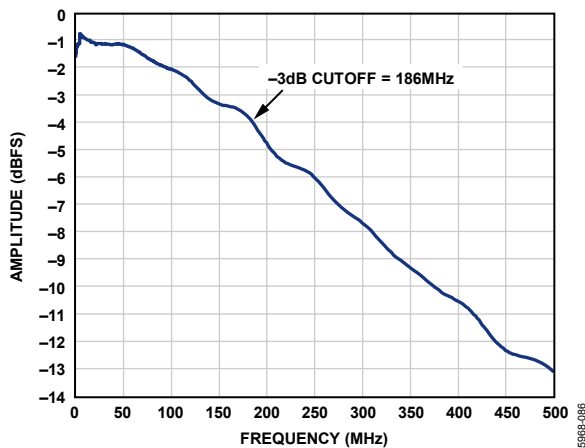

Figure 75. Evaluation Board Full Power Bandwidth
- **AIN:** The evaluation board is set up for a transformer-coupled analog input with optimum 50 Ω impedance matching out to 150 MHz (see Figure 75). For more bandwidth response, the differential capacitor across the analog inputs can be changed or removed. The common mode of the analog inputs is developed from the center tap of the transformer or AVDD_DUT/2.